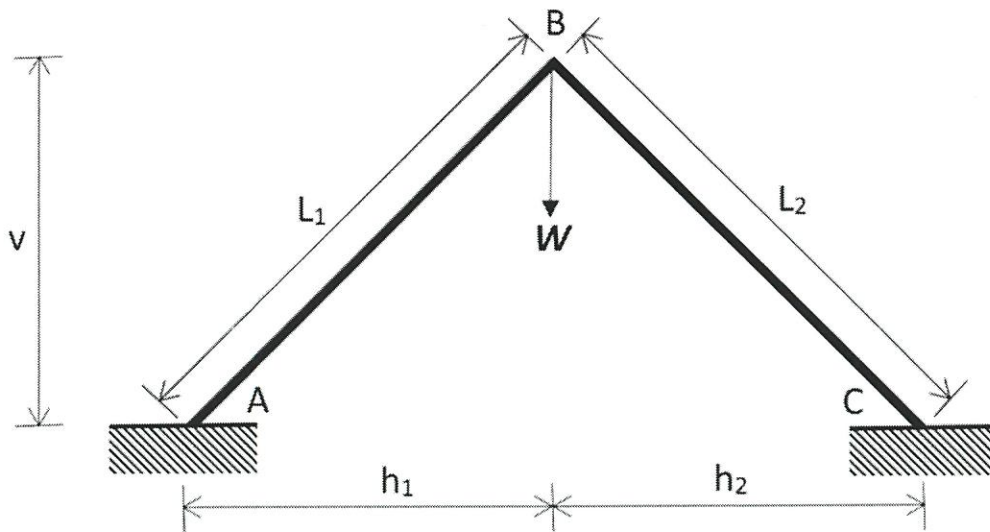

FIGURE Q2
- Q2** A rigid jointed steel frame ABC carries a concentrated load W at point B as shown in **FIGURE Q2**. The given data are $h_1=4.2\text{m}$, $h_2=4.2\text{m}$, $v=4.0\text{m}$, $I_{AB}=1280\text{cm}^4$ and $I_{BC}=1050\text{cm}^4$. Determine the following: